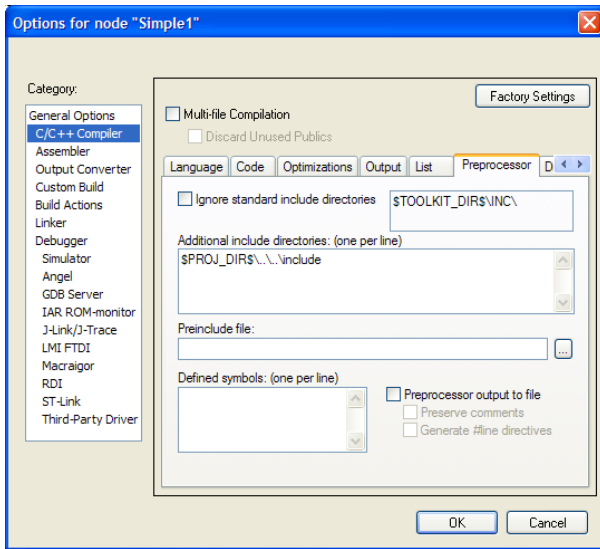

Figure 25. Specifying the Include Directory
3. Click **C/C++ Compiler** in the **Category** box, and specify the include directory as shown in Figure 25 in the **Preprocessor** tab.